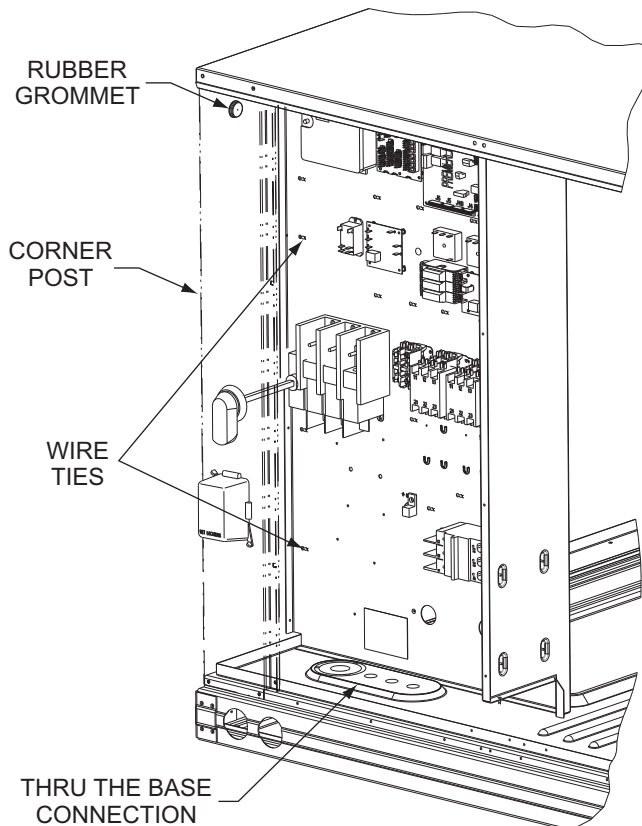

Fig. 42 — Field Control Wiring Raceway
Correctly rated low voltage wire can be routed through the rubber grommet located on the corner post adjacent to the control box access panel. Route wire through the grommet and then route the wire behind the corner post utilizing the factory provided wire ties secured to the control box. This will ensure separation of the field low voltage wire and the high voltage circuit. Route the low voltage wire to the central terminal board. See Fig. 42.
2. Feed wires through the raceway built into the corner post (see Fig. 42) to the 24-v barrier located on the left side of the control box. The raceway provides the UL-required clearance between high-voltage and low-voltage wiring.